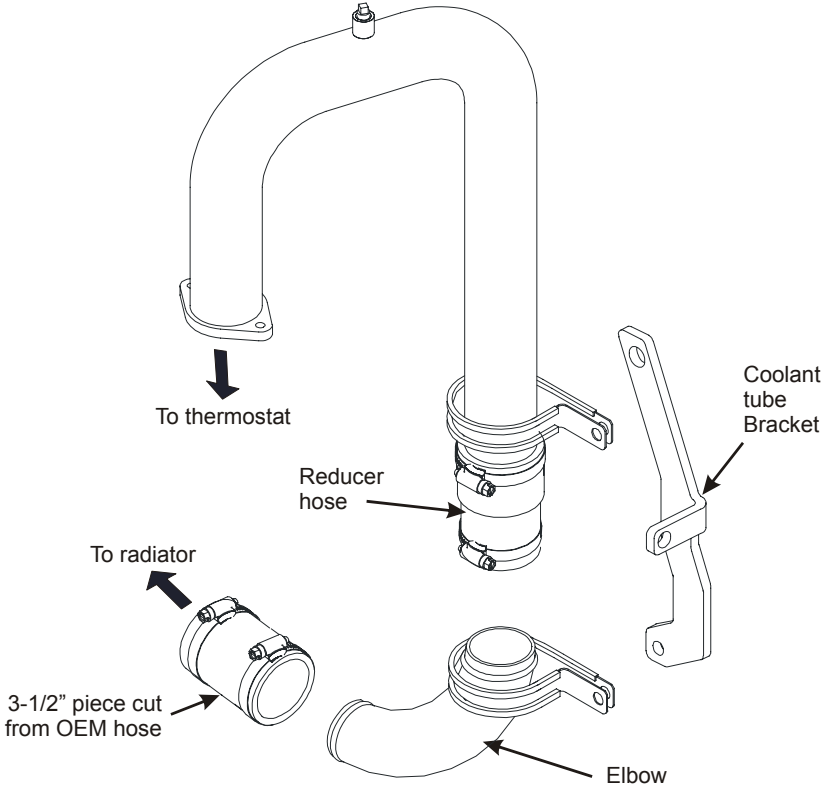

Figure 3.1
- Install the short piece of hose (cut from the end of the lower radiator hose) on the passenger side radiator fitting, then insert the steel 90 degree elbow into this hose and angle it upwards (Figure 3.1).
- Place the large rubber-insulated tube clamps around the elbow and the coolant tube above and below the reducer hose. Fasten them to the coolant tube bracket and fasten the coolant tube bracket in place to support them (Figure 3.1).